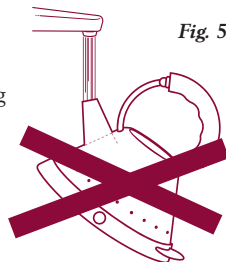

Fig. 5
- Remove the lid and fill the kettle up to the required level (fig. 5).